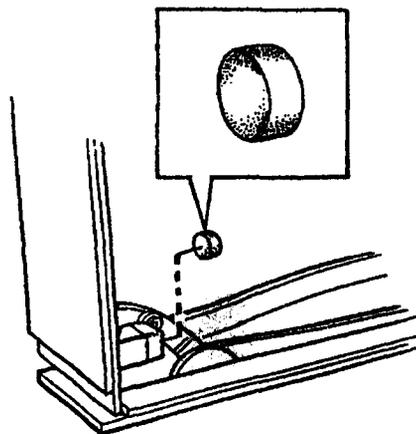

Figure 3. Gluing rubber plug
1. Glue the rubber plug, P/N 46 96 175, to the head of the pop rivet securing the second bow's stop. See Figure 3.C.